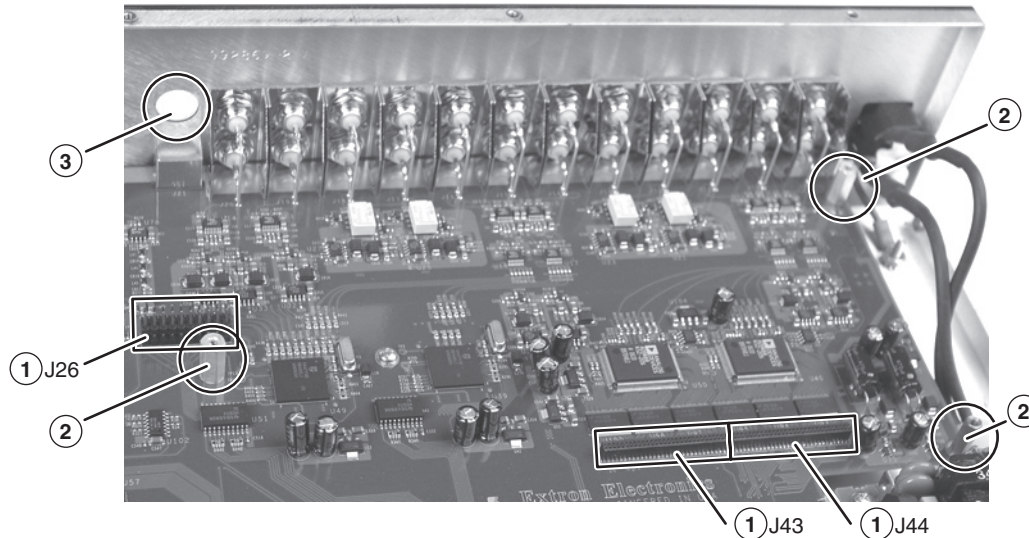

Figure 2 — SDI/HD-SDI input board installation location
2. On the main board (figure 2), locate connectors J26, J43, and J44 (①); the three standoffs (②); and the rear panel connector port (③).